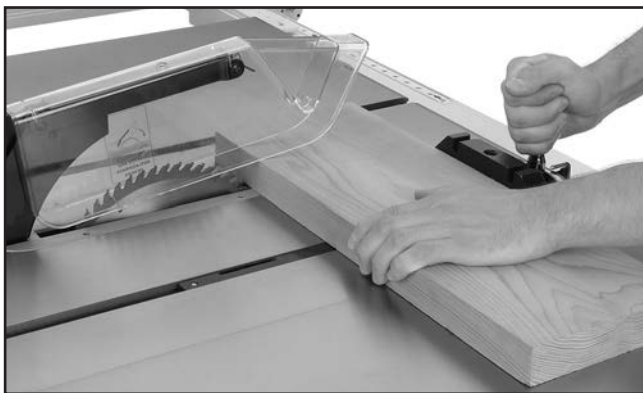

Figure 74. Typical crosscutting operation.
7. Hold the workpiece firmly against the face of the miter gauge (**Figure 74**), and ease it through the blade until the workpiece is completely past the saw blade.